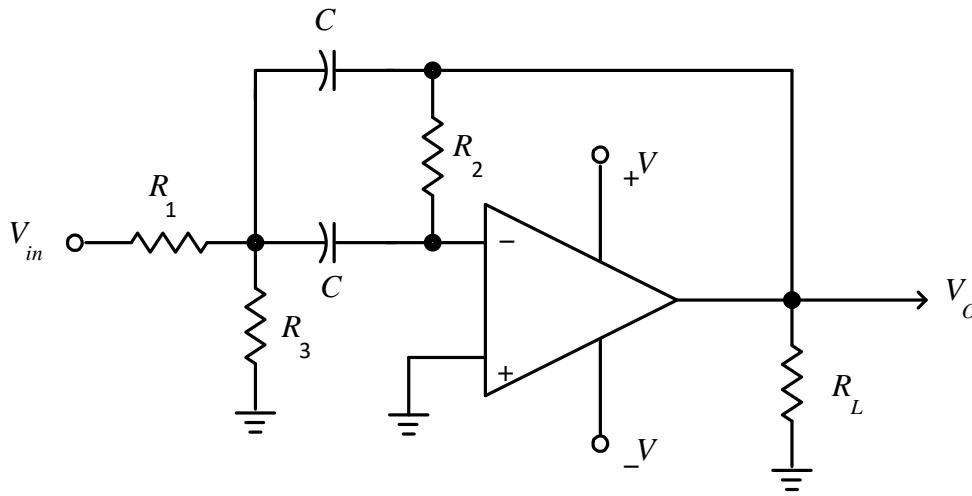

Figure 1: An op-Amp band-pass filter.
1. Figure 1 shows one of many possible band-pass filters that can be synthesized with an op-amp. With this design the filter can supply gain, and can change the center frequency by adjusting only one resistor. Design of this filter is best started by choosing a reasonable capacitance for  $C$ . The smaller the value of  $C$ , the larger the resistors can be. Choose a non-polarized capacitor for this capacitance. For this experiment, set  $C$  to 4.7 nF.
2. Breadboard the circuit of Figure 1 using the chosen components. Use a  $\pm 12$  V supply, and a 741 op-amp. Check with the data sheet or lab instructor to get the op-amp pin assignments. And finally, set  $R_L$  to 3.3 k.